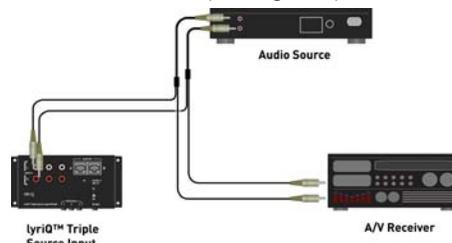

Figure 3
- If an audio component is being shared with an A/V receiver and the multi-source system, and doesn't have secondary fixed stereo line level outputs, use two Y-cables to split that component's output signal so it can be sent directly into one set of RCA jacks on the Triple-Source Input and also to the A/V receiver (see **Figure 3**).